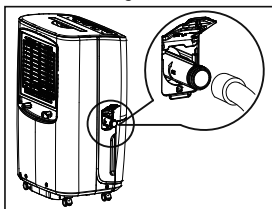

fig. 7
- c. Screw the garden hose onto the threaded portion of the drainage adapter. (fig.7)